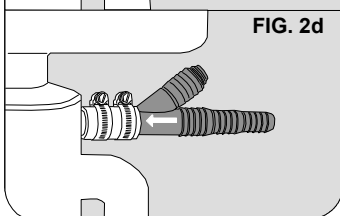

FIG. 2d
6. Point arrows of ET116-003 toward disposal and slide barbs into the remaining one inch of the hose coupler until firmly seated against the disposal nipple. Orient the “wye branch” in a vertical position to receive the RO drain tube. Tighten both hose clamps securely over hose coupler so that the ET116-003 is secure on disposal. (See Fig. 2d)